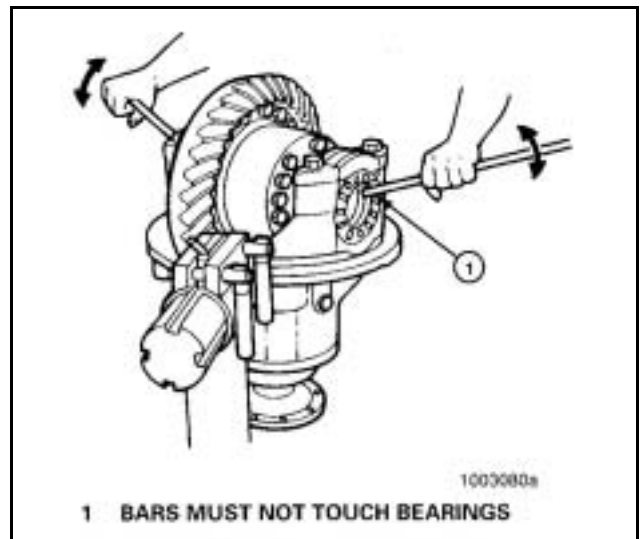

Figure 102
- a. Use two pry bars that fit between the bearing adjusting rings and ends of the differential case. The pry bars **must not** touch the differential bearings. **Figure 102.**